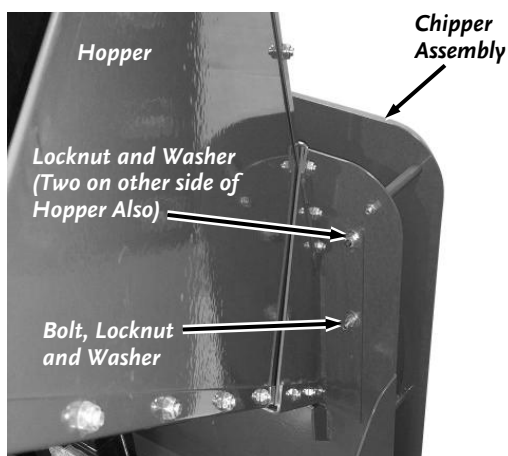

Figure 37b: Pro XL-575
- a. Remove the Locknut and Washer from the Bolt on the lower right side of the Hopper (**Figure 37b**). The Bolt can be left in place.